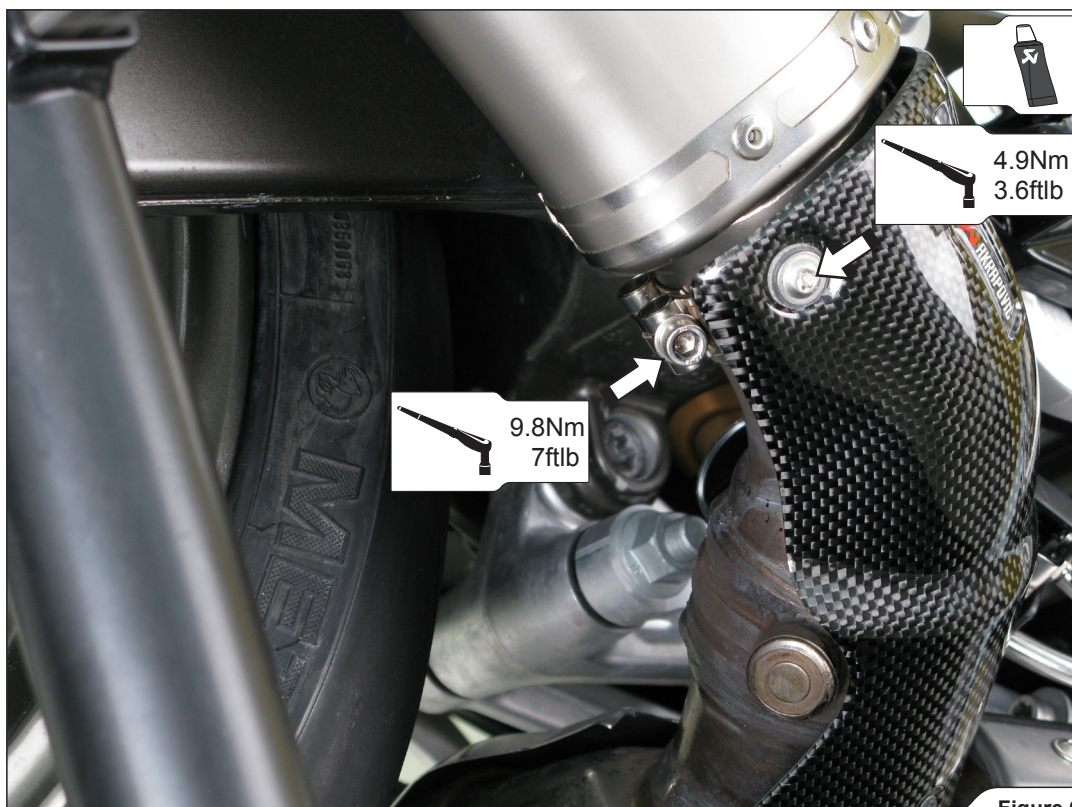

Figure 6
4. **For Low Slip-On only:** tighten the clamp and heatshield to a specified torques (**Figure 6**).